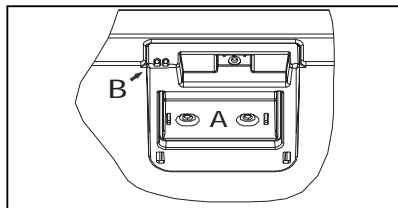

Figure 4.
7.2. Interior light (fig. 4.)
2. Reset the door control signal by holding the Remote control against the door opening sensor (Fig. 4. B) and push the button .